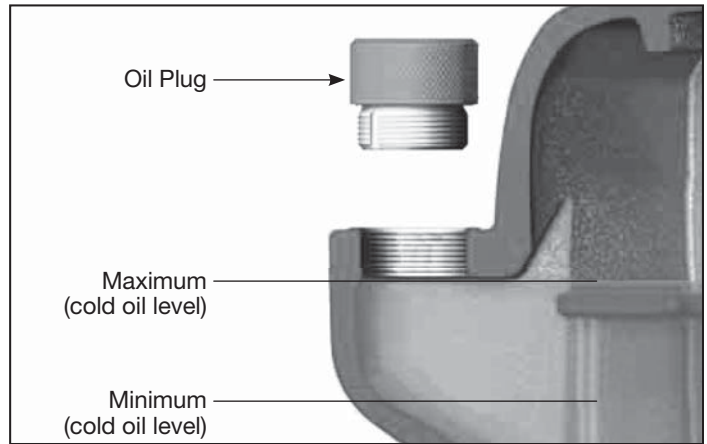

Figure 7 - Oil Level
**THIS UNIT CONTAINS OIL.** Before operating compressor, check oil level (see Figure 7).
### Oil Level Check (See Figure 7)
5. If necessary, top off oil of the same oil type and the same brand up to the maximum level (see Figure 7 and Lubrication section).
1. Check oil level (See Figure 7).